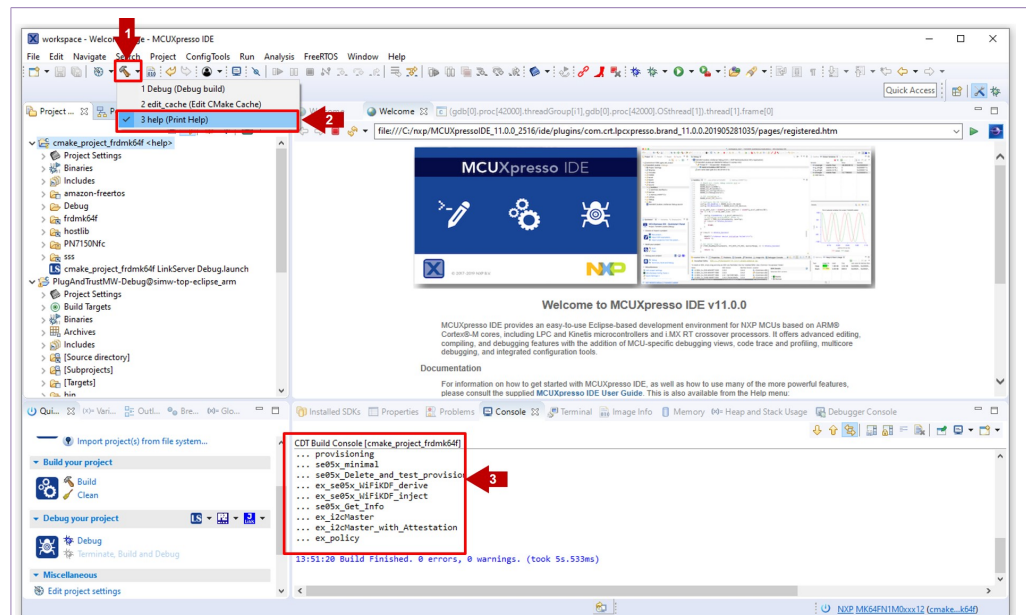

Figure 35. EdgeLock SE050 Plug & Trust middleware test examples
3. The MCUXpresso console display the list of EdgeLock SE050 Plug & Trust middleware test examples as shown in Figure 35.